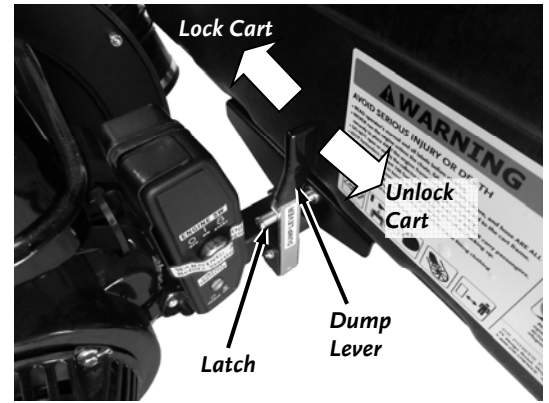

Figure 77
8. Pull the Dump Lever out to raise the Cart Bed (**Figure 77**).